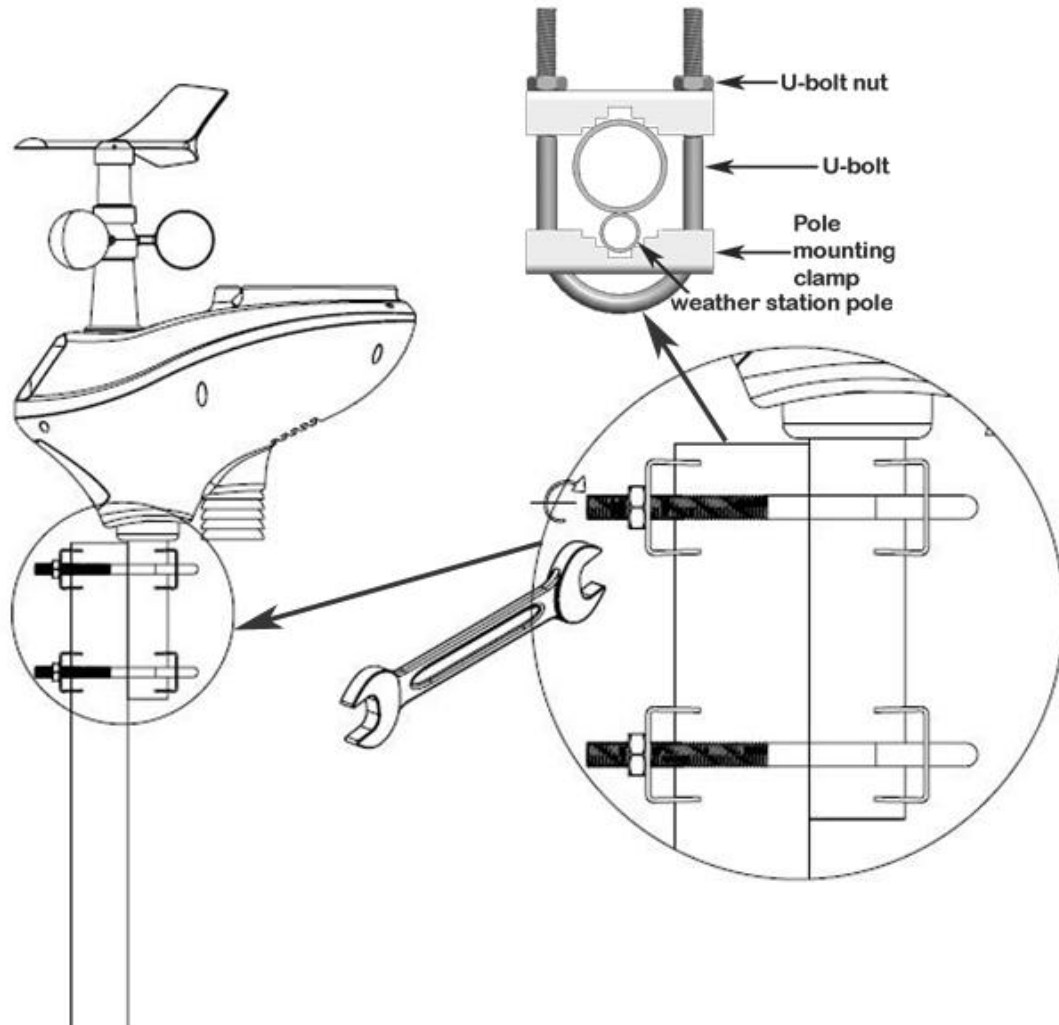

Figure 7
A. Option 1: Mounting Clamps. Fasten the mounting pole to your mounting pole or bracket (purchased separately) with the two U-bolts, mounting pole brackets and nuts, as shown in Figure 7. Tighten the mounting pole to your mounting pole with the U-Bolt assembly.